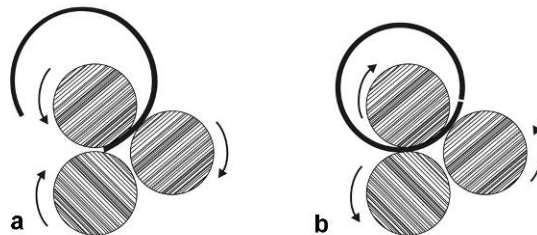

Figure 16
2. Feed the workpiece into the machine. As it nears the end (a, Figure 16), stop and reverse direction (b, Figure 16).